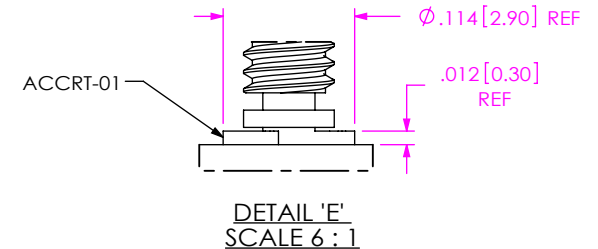

FIG 8
- DS: DUAL SCREW DOWN FOR .062 BOARD (SEE FIG 8, SHT 3) (ONLY AVAILABLE WITH -01, -02 AND -03 LEAD STYLE) (NOT AVAILABLE WITH OPTIONS -N, -A, -LC, -P, -TR, -K, -SN AND SN2). (USES SFM-XX-D-DS, CPS-RR-XX-XX-X, ACCRT-01 AND WT-27-XX-T ALWAYS FILLED)